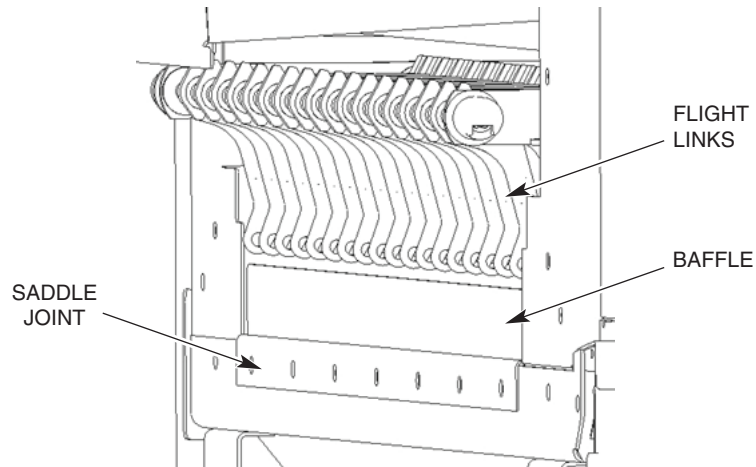

Fig. 11
3. If machine is equipped with the standard conveyor assembly, install baffles along with the saddles using same mounting hardware. Ensure baffles are adjusted to the lowest position to ensure that the baffle does not interfere with the flight links (Fig. 11).